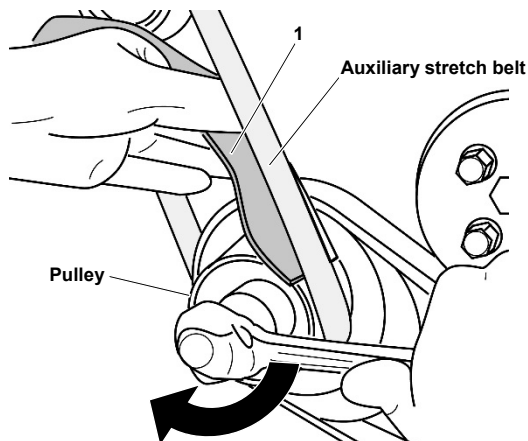

Fig. 2: **Positioning the webbing.**
2. Turn crankshaft clockwise until approximately three quarters of webbing '1' is wrapped around the pulley. (**Fig. 2**)